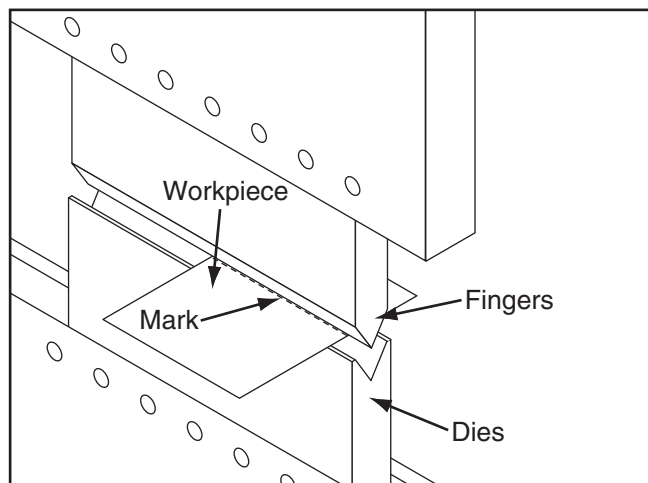

Figure 5. Aligning workpiece.
2. Place the workpiece between the fingers and dies and pull the handle down until the fingers just contact the workpiece. Align the mark you made in **Step 1** with the tip of the fingers (**Figure 5**).